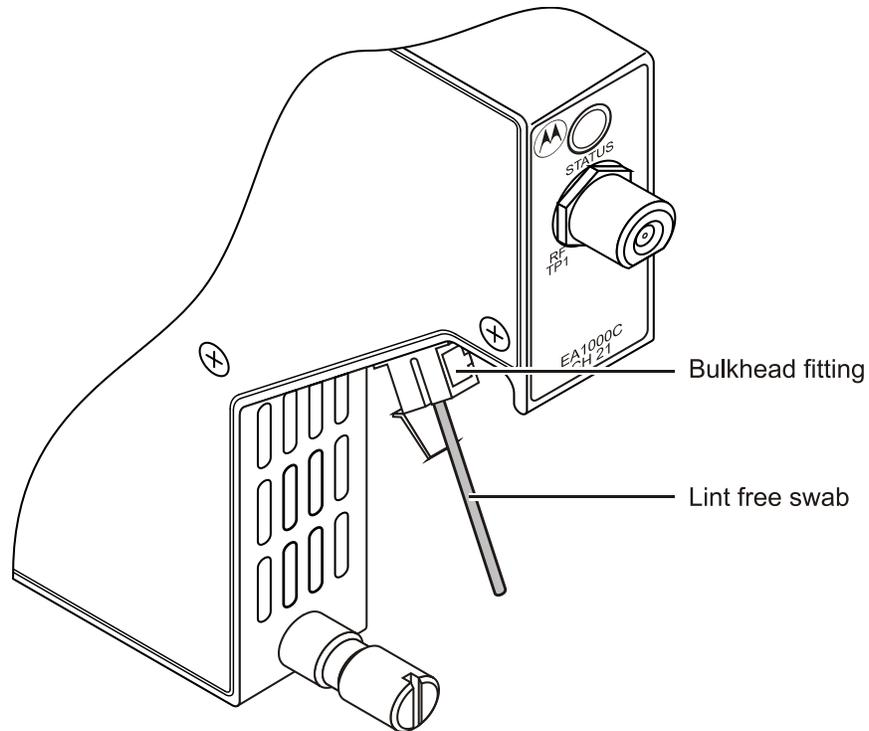

Figure 9: Cleaning the Barrel of the Optical Bulkhead Fitting
3. Gently clean the barrel of the optical bulkhead fitting with a lint-free swab as illustrated in Figure 9.